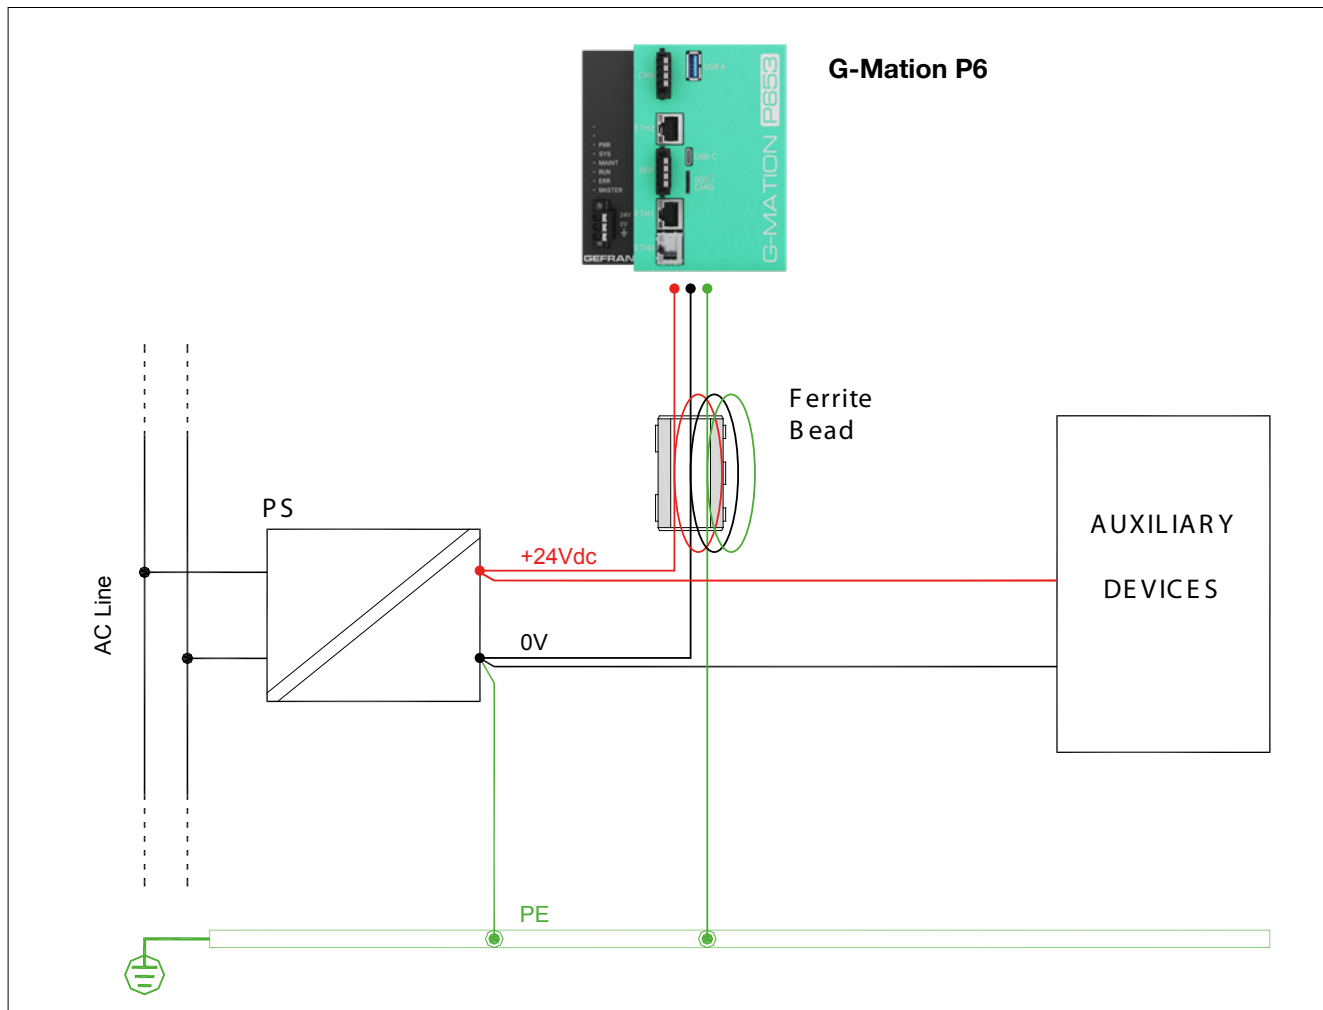

Figure 5 - Power Supply Configuration
The system is powered by ONE (1) power supply unit as shown in Figure 5.